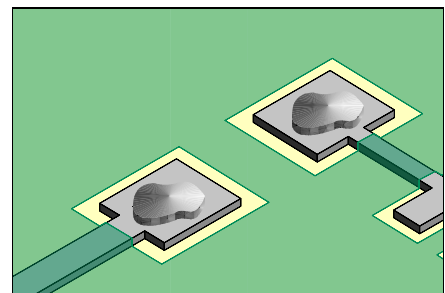

Figure 1: Add a small bead of solder paste to each pad.
1. Add a small bead of solder paste to each pad. (See Figure 1).